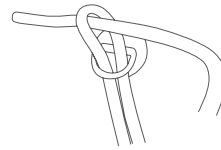

Fig 15 -
1. Push spliced loop of Dock Line through the stainless D ring (Fig 15).